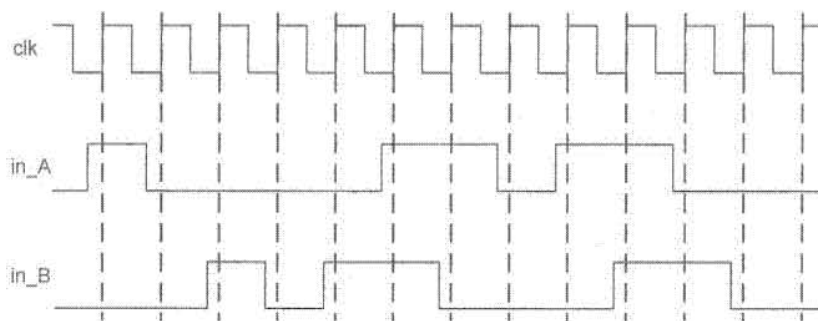

Figure 1.2
c) Assuming that the FSM is initially at state $S0$, draw a timing diagram showing the output FSM_out and the state variable $S4:S0$ for inputs in_A and in_B shown in Figure 1.2. You may use the timing diagram template provided at the end of this paper.
use timing diagram on template not fig 1.2